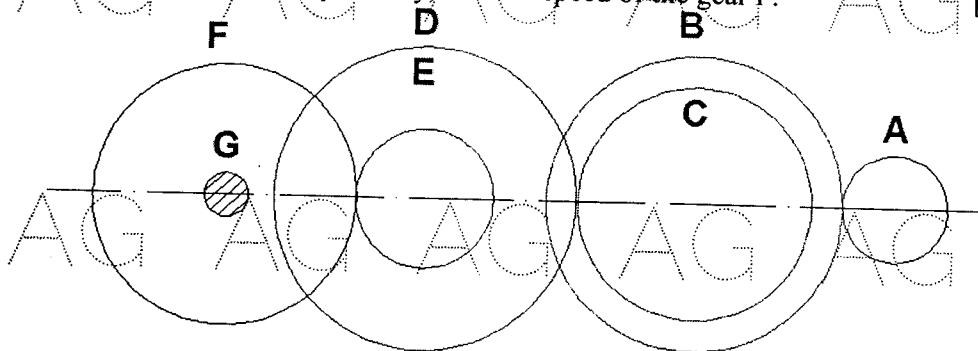

Figure: 4
- b) The gearing of a machine tool is shown in Figure 4. The motor shaft is connected to the gear A, and rotates at 975 rpm. The gears B – C, and D – E are compound wheels fixed to parallel shafts, and rotate together. The final gear F is fixed on the output shaft 'G'. If the number of teeth on gears A, B, C, D, E, and F are 20, 50, 25, 75, 26, and 6 respectively, find the speed of the gear F. [5+5]